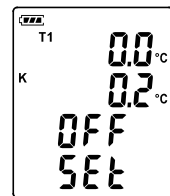

Fig.2
- (1) Plug the thermocouple into the input T1 terminal.
- (2) Turn off the unit.
- (3) Enter offset setting mode by pressing and holding  button and then press  power button to turn on the unit.(see Fig.2)
- (4) Place the thermocouple in a known stable temperature environment (such as an ice bath or a dry well calibrator).
- (5) Allow the readings to stabilize.
- (6) Press  () or  () to adjust value.
- (7)When finish, press  button to exit **offset setting** mode.